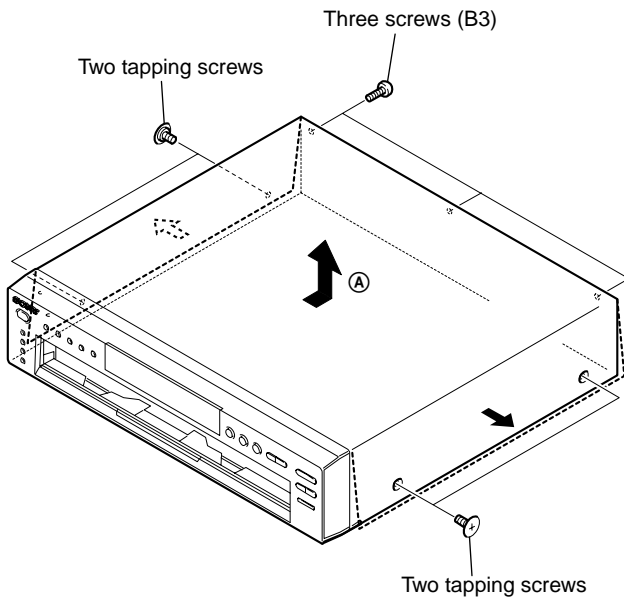

Fig. 1
- 1) Remove the four tapping screws and three screws. (See Fig. 1)
- 2) Open the sides of case. (See Fig. 1)
- 3) Remove the upper case in the direction of the arrow ①.